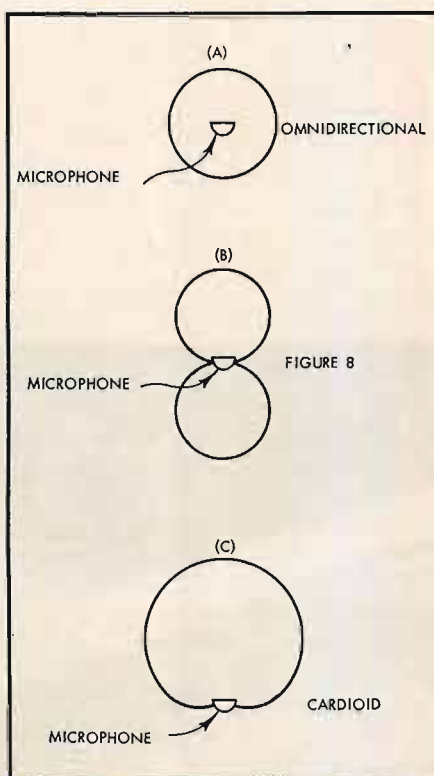

Fig. 15. Basic microphone pick-up patterns.
Microphones have three basic types of pick-up patterns, known as polar characteristics, which are illustrated in *Fig. 15*.
The second type of pattern is the cardioid, or heart-shaped characteristic, illustrated at (B) in *Fig. 15*. Here the microphone is essentially unidirectional, becoming more so as frequency rises. The difference in sensitivity of such a microphone to sounds in front of it and sounds behind it may be as much as 15 db and more. Some microphones have what is called a super-cardioid characteristic, signifying that the pick-up area is narrower still.
The third type of pattern, shown at (C) in *Fig. 15*, is the bidirectional, or "Figure-8," characteristic. Such microphones are about equally sensitive to sounds at the front and rear and have limited response to sounds arriving from the sides.